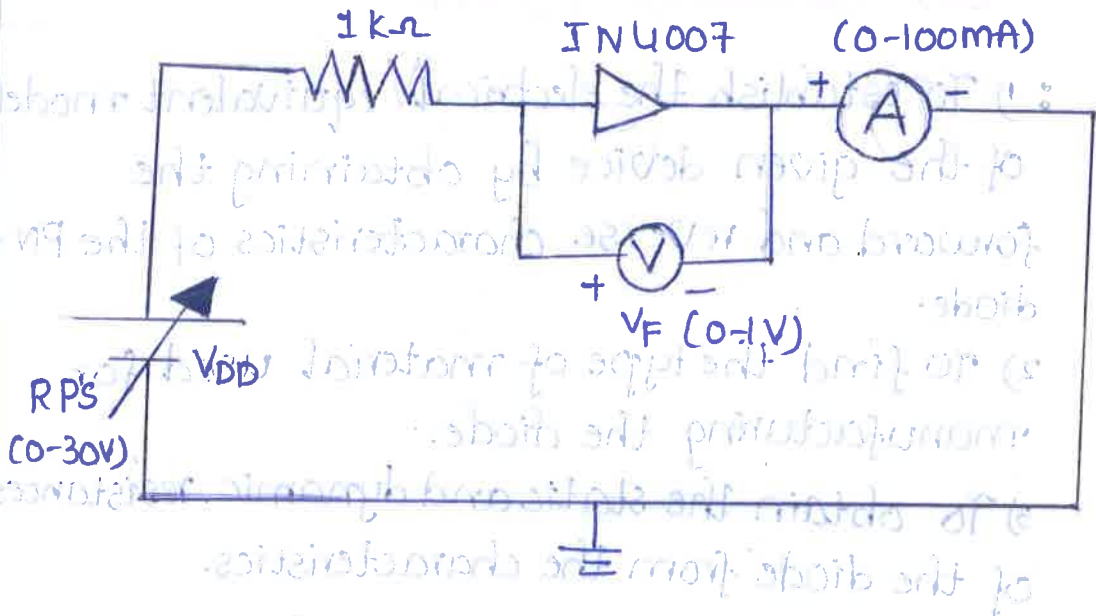

Figure 1: Measurement of voltage and current in Forward Biasing.
- 1) connect the circuit as per the circuit diagram of fig 1.